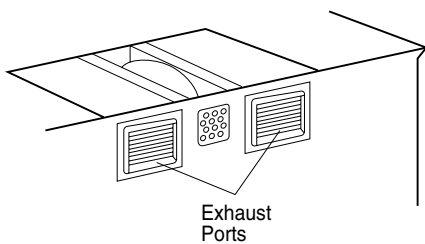

Figure 17
6. Place blower unit back into cabinet. Check that the exhaust ports face towards the rear of the cabinet. Be sure the wires are not pinched. See Figure 17.